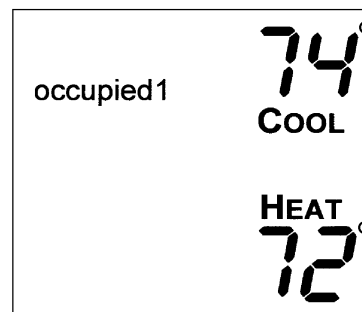

Fig. 3 — Setting Occupied 1 Set Points
1. Enter Programming mode by pressing and holding the Mode and UP ARROW buttons. The Occupied 1 annunciator will appear on the thermostat display. Use the UP ARROW or DOWN ARROW button to set the maximum number of Occupied periods for each day. The thermostat can be set to 1, 2, or 3. After the number of Occupied periods has been selected, press the Mode button. See Fig. 3.
2. The cooling set point for Occupied 1 will be displayed. Use the UP ARROW or DOWN ARROW button to raise or lower the cooling set point until the desired temperature is shown. The range of acceptable values is 35 to 99 F (1 to 37 C). Press the Mode button to continue. See Fig. 3.
3. The heating set point for Occupied 1 will be displayed. Use the UP ARROW or DOWN ARROW button to raise or lower the heating set point until the desired temperature is shown. The range of acceptable values is 35 to 99 F (1 to 37 C). Press the Mode button to continue. See Fig. 3.